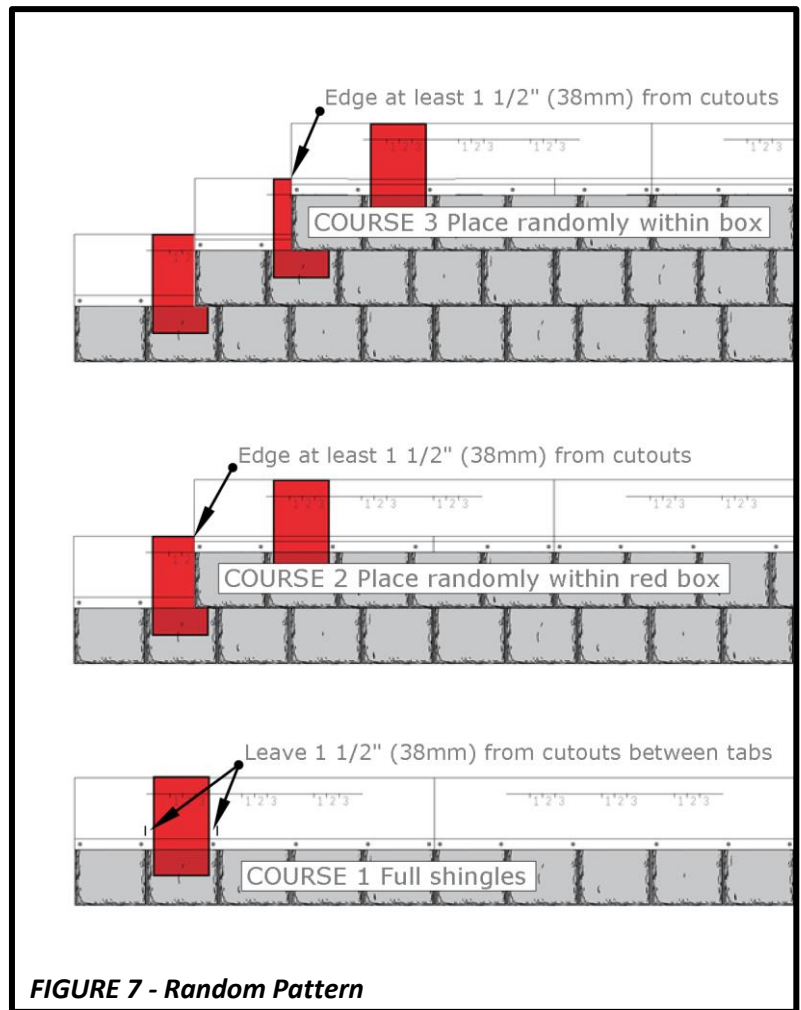

FIGURE 7 - Random Pattern
- In order to achieve the most realistic look, a random offset is preferred, as shown in **Figure 7**. A repeating offset, as shown in **Figure 8**, is also acceptable. If a repeating pattern is used, it is possible that the tab cutouts could line up at some angles when viewed from the ground. For the best appearance, the method used should be consistent on all slopes.
- COURSE 2** - Place shingles in a diagonal offset pattern. Use the horizontal reference lines on the shingle to provide a random offset distance. Be sure to keep the edge of the shingle at least **1 1/2" (38mm)** from the cutout on the shingle below. See **Figure 7**.